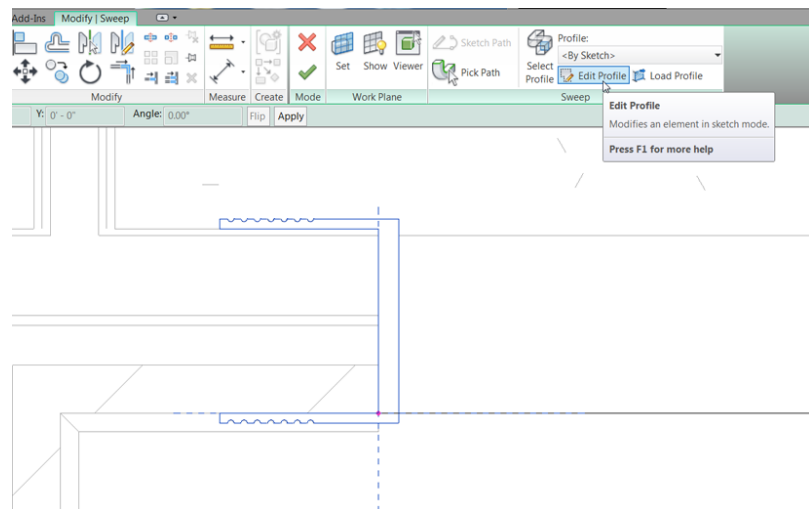

FIGURE 17.31: Sketching the profile
18. On the Sweep panel, click the Edit Profile button (see Figure 17.31).
19. Sketch a profile similar to that shown in Figure 17.31. Make it any size, shape, and complexity you wish.